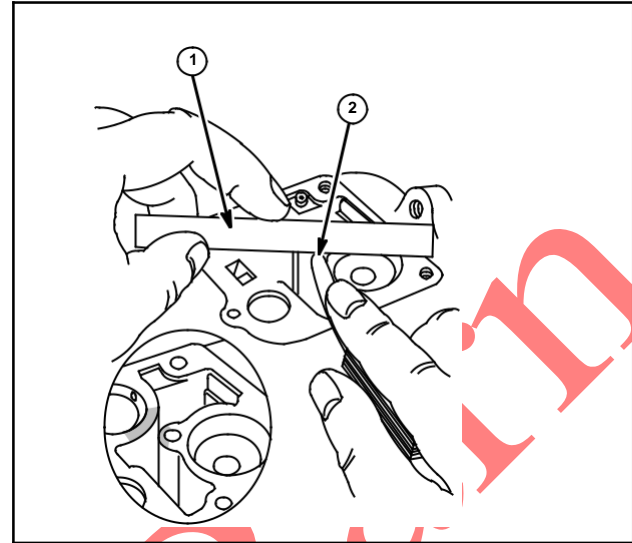

Fig. 32
Flatness can be checked with a straight edge (1) and feeler gauge (2), as shown in Fig. 32. A .002" (.05 mm) feeler gauge should not enter between straight edge and machined surface, when checking at shaded areas shown. Replace tank if gauge enters.